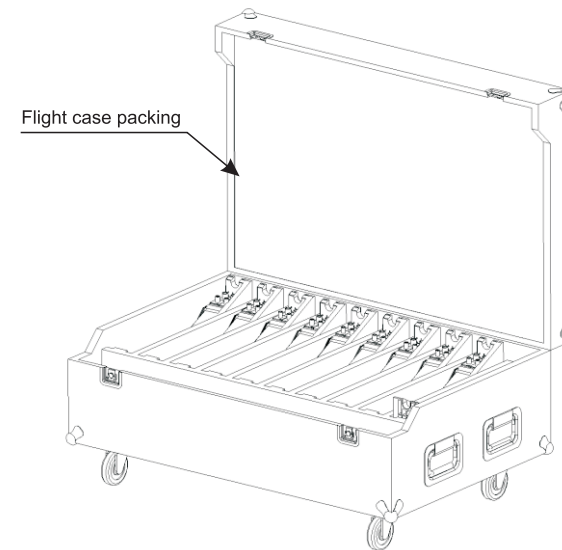

Figure 3.2.1 MG14- Flight Case Packing
- 2) Wooden case packing; the cabinet will be packed by carton at first, then put in wooden case for transportation. (Figure 3.2.1- 3.2.2)